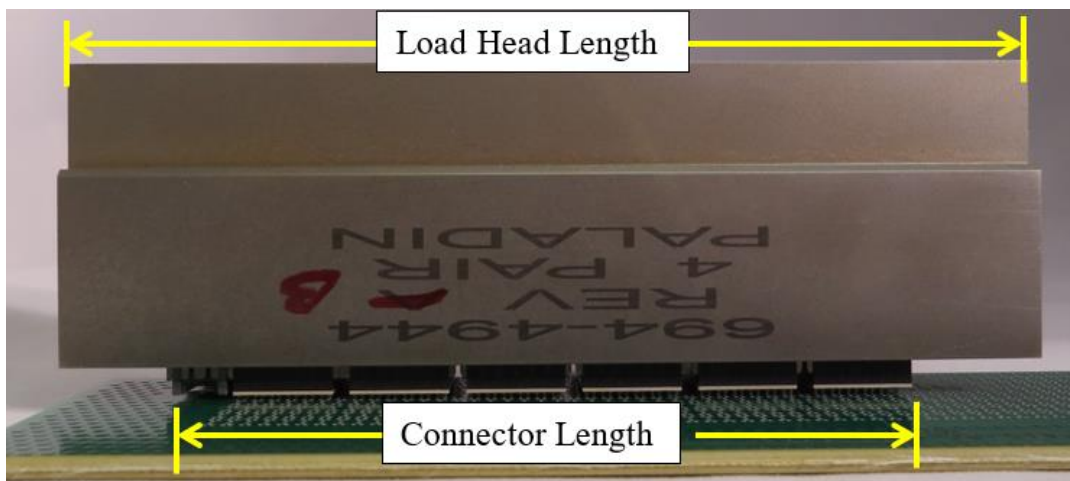

Figure 6: Ensure that the load head length is equal to or greater than the connector length.
Step 7. Select the correct seating head based on the connector type and the length of the connector from Section 2.2.2. Ensure the load head length is at least as long as the connector length (see Figure 6). Position the seating head directly on top of the connector, ensuring the clearance slot is over the wafer “retention hats” and the rear alignment rib is against the stiffener back (see Figure 7).